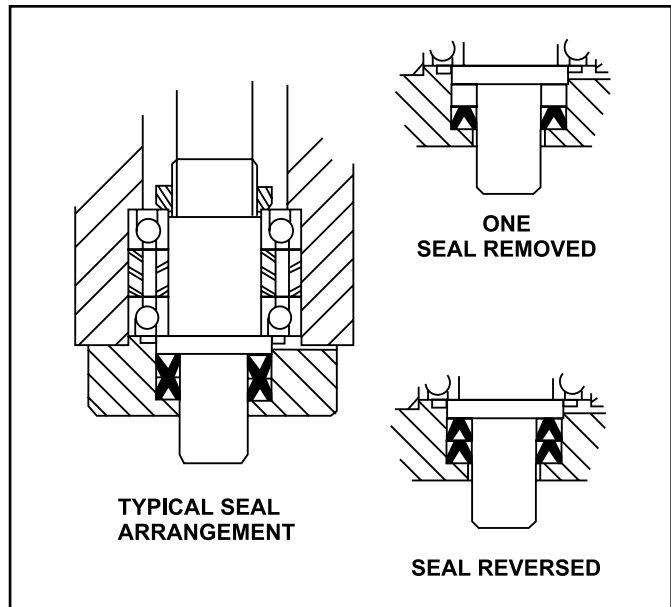

Figure 2-4. Reversing Seals
2.2.3.2 All inward-facing lip seals on the shaft should be reversed to face outward. Reversing the inward-facing seal reduces the possibility of contaminants entering the head. Figure 2-4 shows a typical seal arrangement on a vertical spindle shaft. Horizontal shafts require the same treatment.